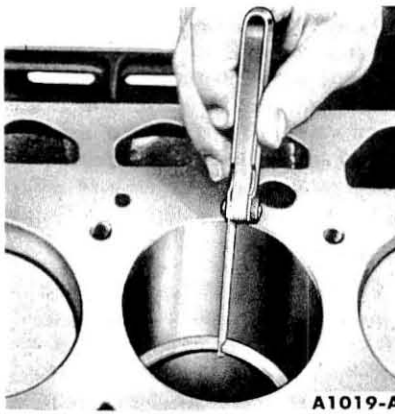

FIG. 21—Piston Ring Gap
5. Measure the gap between the ends of the ring with a feeler gauge (Fig. 21). If the ring gap is less than the recommended lower limit, try another ring set.